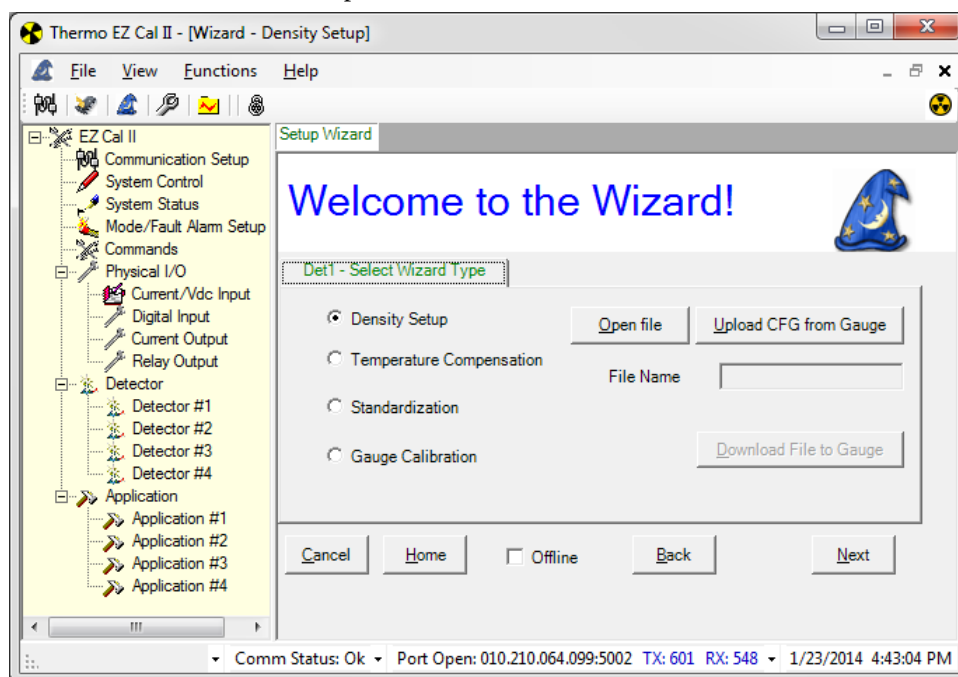

Figure 3-5. Wizard Type Selection
19. Click the Next button to return to the Wizard Type Selection screen, Figure 3-5, and complete the device configuration.